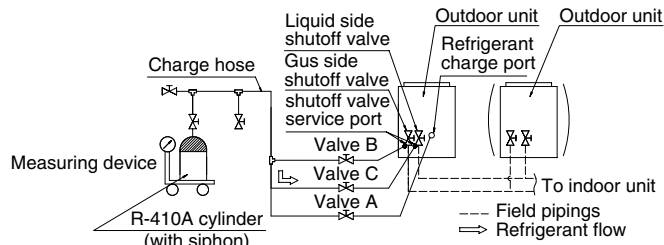

fig 2
3. Open the valve C (See the figure 2. The valve A, B and the liquid and gas side shutout valve must be left closed), and charge the refrigerant of the “additional charging amount” from the liquid side shutout valve service port.